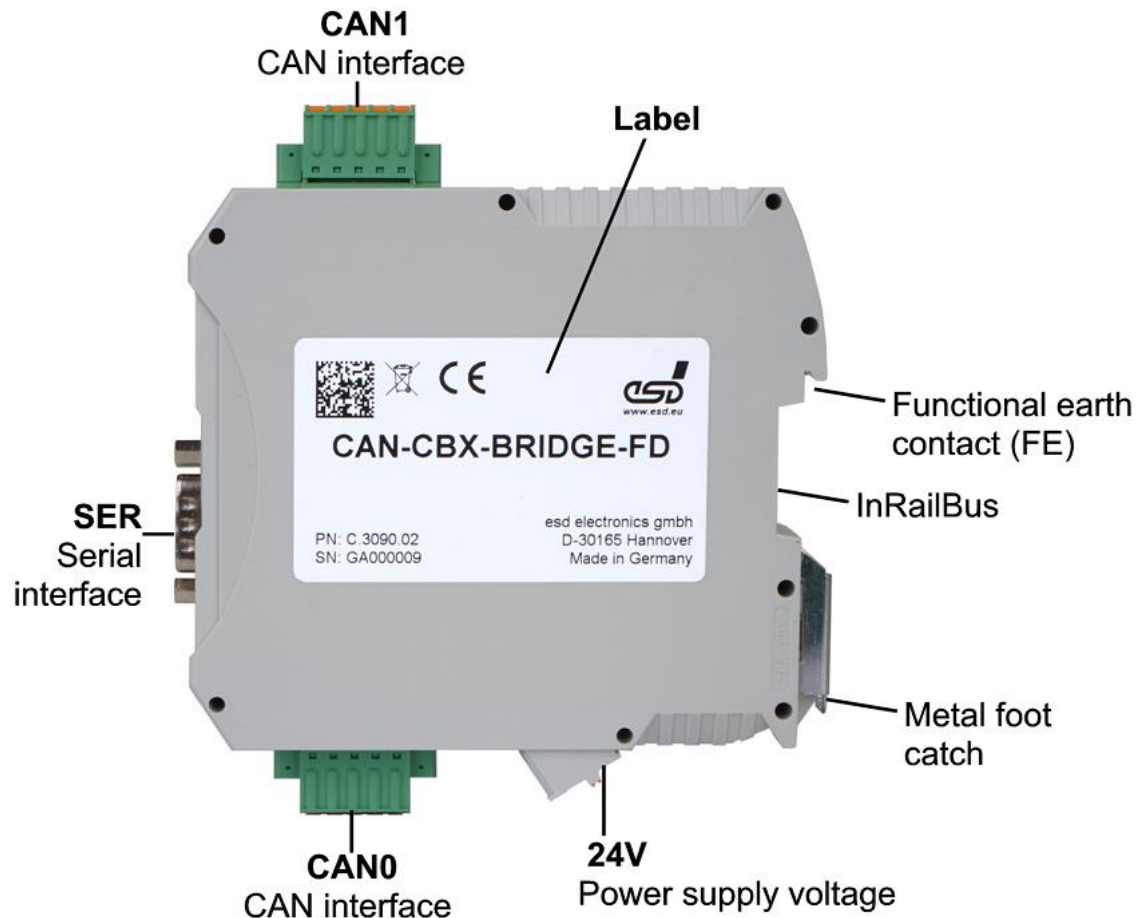

Figure 7: View of the CAN-CBX-Bridge-FD with label (Example)
The label (Figure 7) shows among others the name, esd order No. (PN) and the serial number (SN).